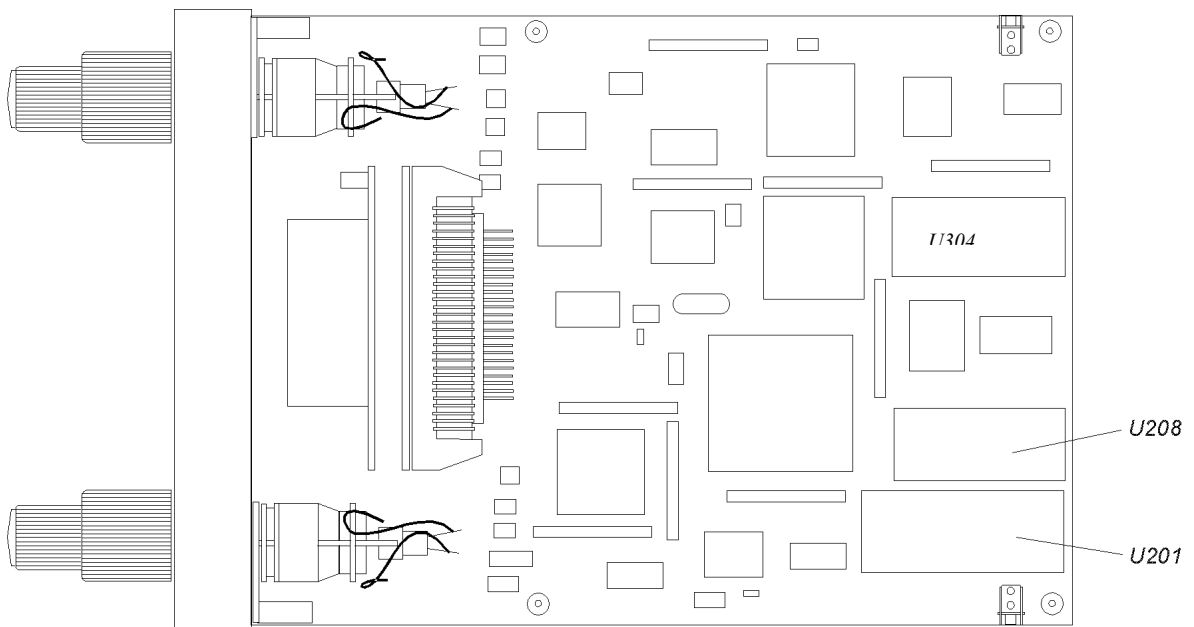

Figure 2. EPROM Locations
2. Remove EPROMS U201, P/N 106-816662-XX, and U208, P/N 106-816664-XX. See Figure 2.
4. Verify U304 is marked as 106-816663-06. U304 should already be –06 if U201 and U208 were –12 or higher. If not, replace it with item 1A. (This item is not included in standard kit)
6. Verify U25 is marked as 106-816929-06. U25 should already be –06 if U201 and U208 were –12 or higher. If not, replace it with item 2A. (This item is not included in standard kit)